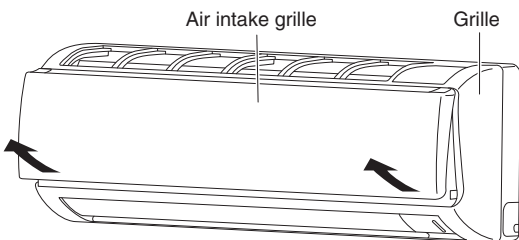

Fig. 3-40
- (1) Grasp both ends of the air intake grille, and remove it by opening towards the front and pulling towards you. (Fig. 3-40)